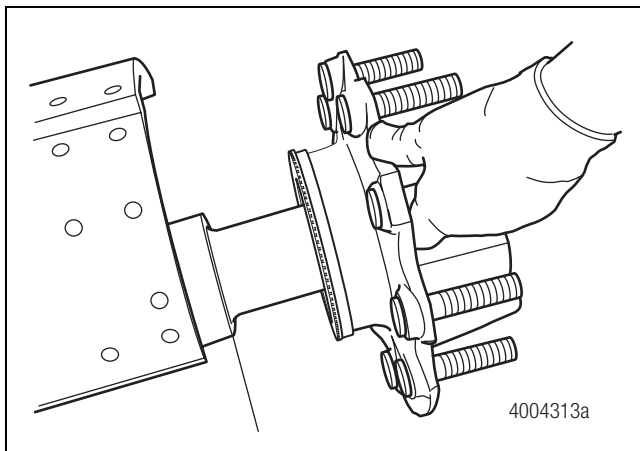

Figure 4.42
11. Carefully align the hub to the axle spindle and slide the hub straight onto the axle spindle taking care not to damage the secondary seal. Figure 4.42.